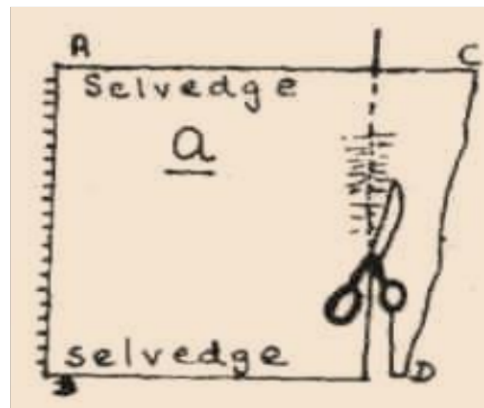

Fig.9.8a
1. Check to see whether each end of the fabric is straight along a crosswise yarn. If it is not, cut it along a crosswise yarn (See Fig.9.8a). This is a process called straightening or evening the ends.
- c) Fabrics that fray or are sheer – clip the selvedge and pull one crosswise yarn gently so that it makes a puckered line. Carefully cut along this puckered line and try to follow it as well as you can. Take the yarn (or the next one to it) and repeat the process of pulling and cutting across the full width of the fabric. Fig 9.8a shows this.